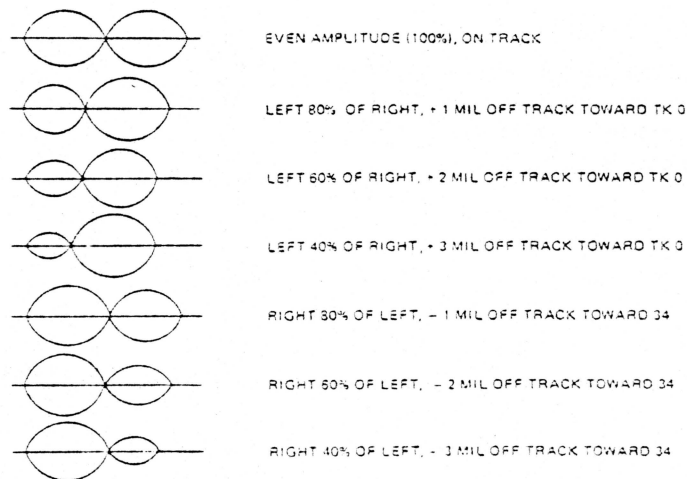

FIGURE 12. HEAD RADIAL ALIGNMENT
- When the lobes are of equal amplitude, tighten the motor mounting screws. Reference figure 12.